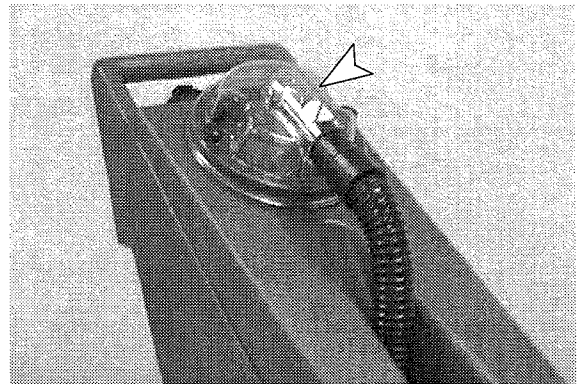

FIG. 5
3. Check for excessive foam buildup in recovery tank. Use a recommended foam control solution to prevent motor damage (Figure 5).